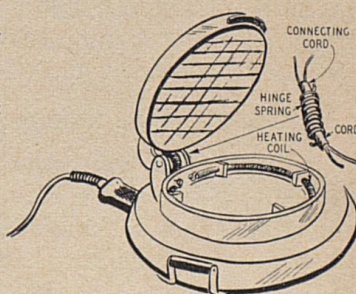

Fig. 29
Remedy: Disassemble and repair in the same manner as any other cord Fig. 29.
3. *Cause:* Heating coil burned out. Fig. 29.